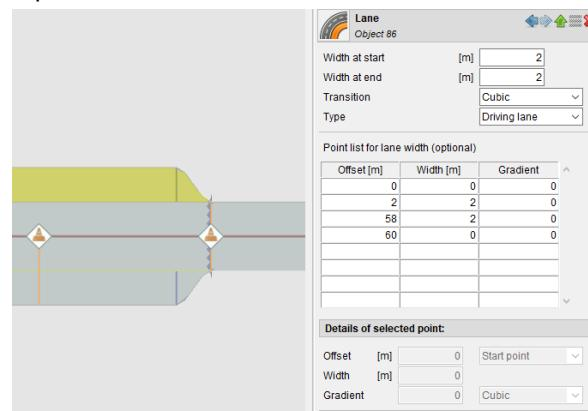

Figure 3.23: Configuring both lanes to fit the requirements
- Afterwards, click on the new lane in the definition dialog (Figure 3.6 - section C) and edit the "Point list for lane width" and input the settings shown in Figure 3.23.